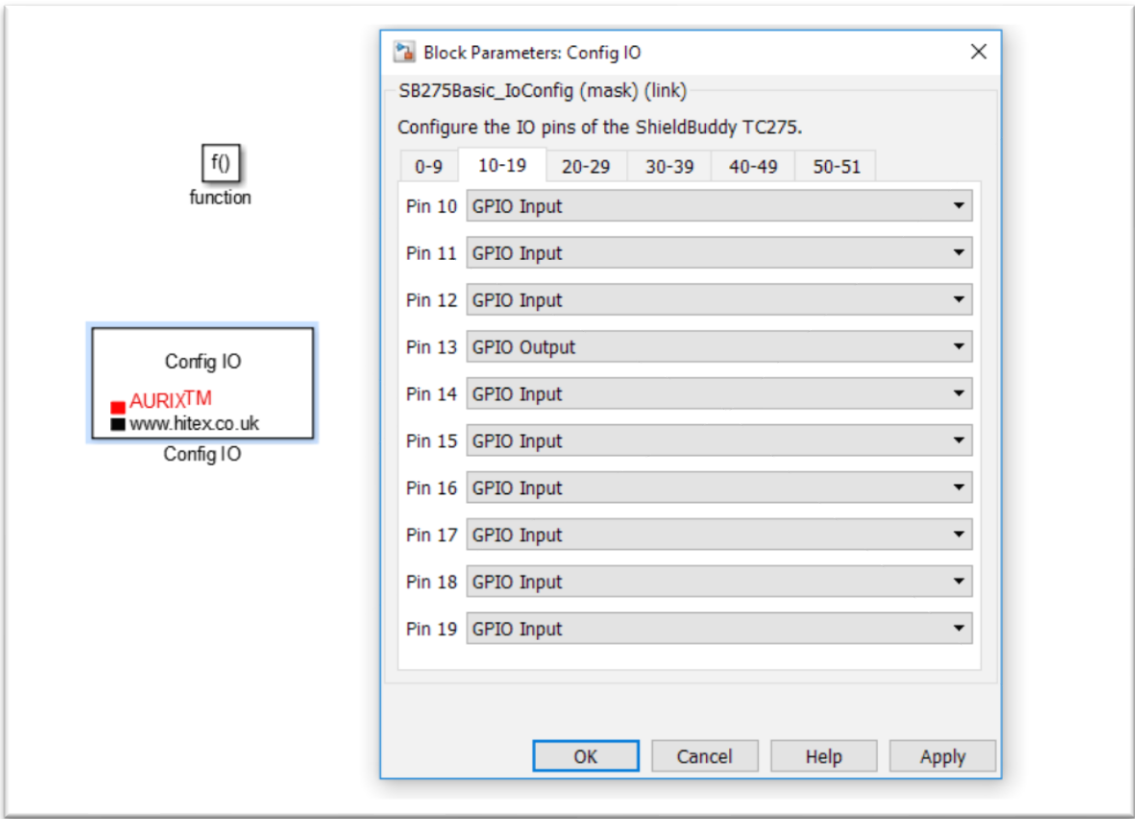

Figure 11 Config IO Setup
6. Double click Config IO and change Pin 13 to Output, see Figure 11.